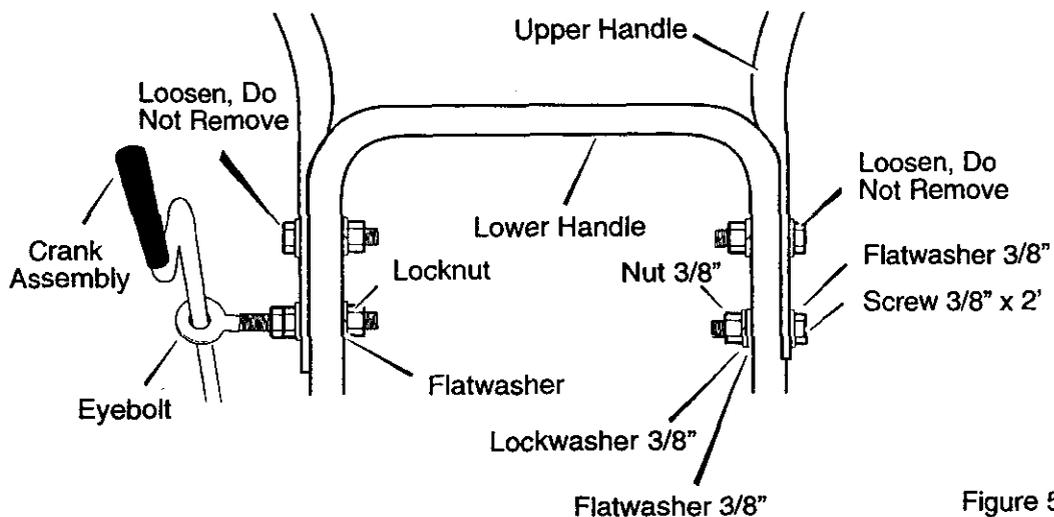

Figure 5
- Loosen, but do not remove, the fasteners in the upper holes of the lower handle. See Figure 5.
10. Tighten the locknut on the **eye bolt**. See Figure 5. Make sure **eye bolt** is properly aligned and the **crank** can freely rotate.